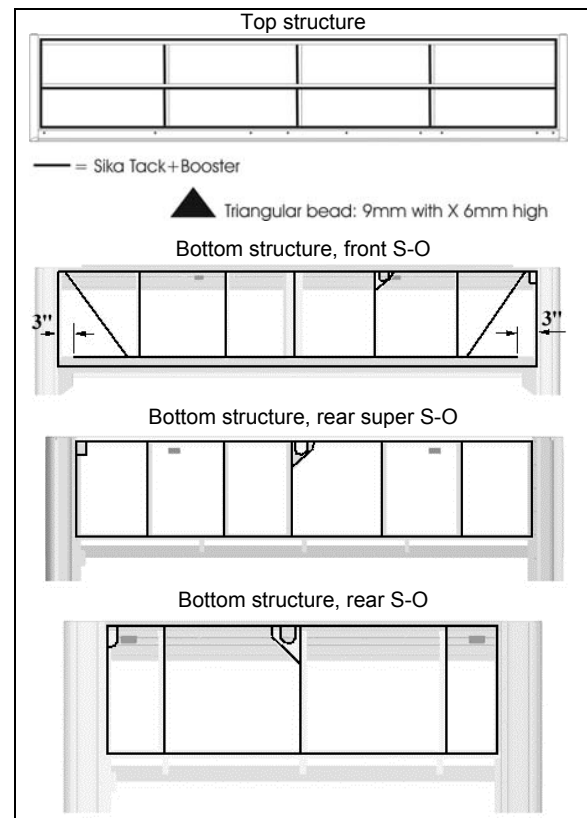
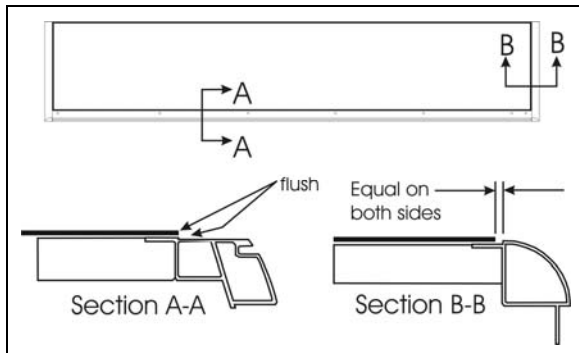
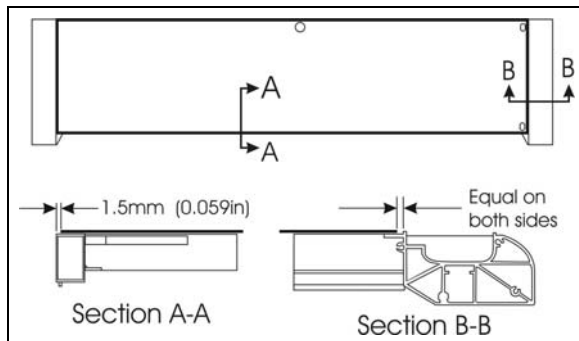

FIGURE 52 : TOP AND BOTTOM PANEL INSTALLATION - SIKA TACK+BOOSTER APPLICATION
FIGURE 53 : TOP PANEL INSTALLATION
FIGURE 54 : BOTTOM PANEL INSTALLATION
5. Apply Sika Tack+Booster (triangular bead: 9mm width X 6mm high) has shown in FIGURE 52 and glue panel in place as shown in figure 53 & figure 54 ;